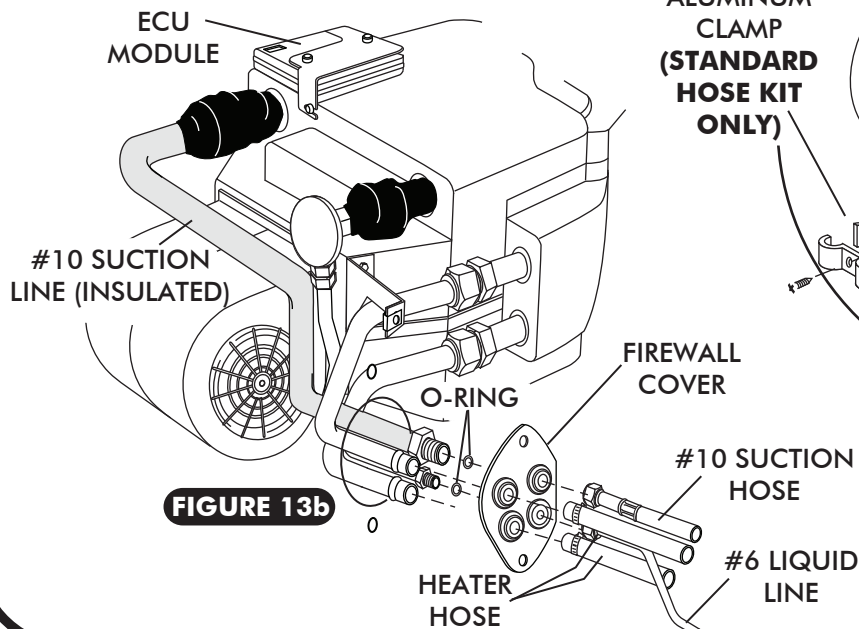

FIGURE 13b
- ☐ INSTALL THE #6 LIQUID LINE, LUBRICATE (1) #6 O-RING AND TIGHTEN. SEE FIGURE 13b, PAGE 14.